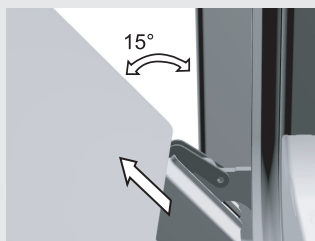

figure 2
- Slowly close the door until the clips are pressed against the supports / seats. At approximately 15° (relative to the closed door position), pull the door slightly upwards and pull them out of the both hinge supports on the appliances (figure 2).